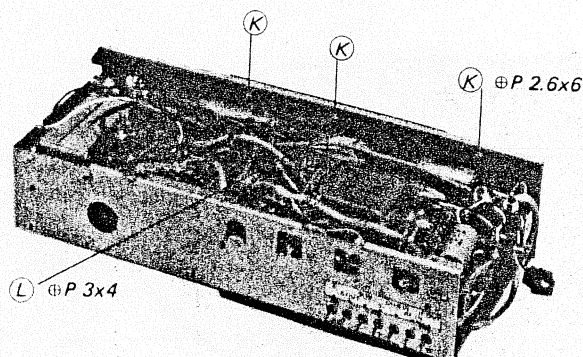

Fig. 2-7
8. Remove the three screws (P 2.6x6) marked (K) and the screw (P 3x4) marked (L) in Fig. 2-7.